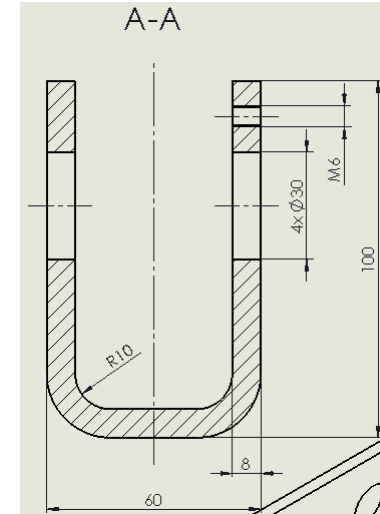

Fig7
– Collect the hole diameters on the sectional view! Shift-drag the 4xØ30 dimension from the main view to the sectional view! Arrange the dimensions of the sectional view by dragging (Fig7)!